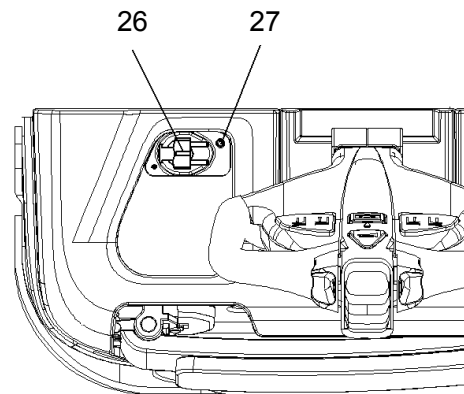

Fig. 15: LED status
Park the truck at a dedicated secured area with a dedicated power supply. Lower the forks and remove the load. Switch the truck off and pull out spring cord (26) and connect to the power socket. The charger starts charging the battery. Battery is fully charged when green light is on (Fig. 15, 27), and charger goes into a floating mode to prevent the battery against damages. When charging is finished, disconnect the connector from the socket and place it in the designated pocket.